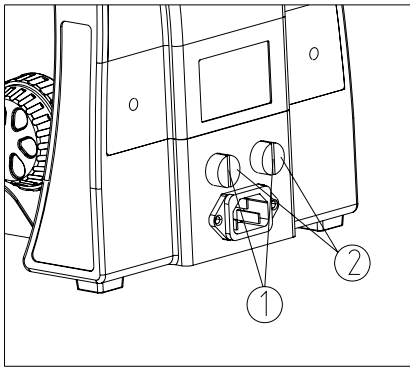

Fig. 18
Turn the main switch to “0” (OFF) before replacing the fuse. Pull out the power cord. Then screw off the fuse group ① from the fuse base ② with a “-” type screwdriver. Install a new fuse and screw it on the fuse base (see Fig. 18).